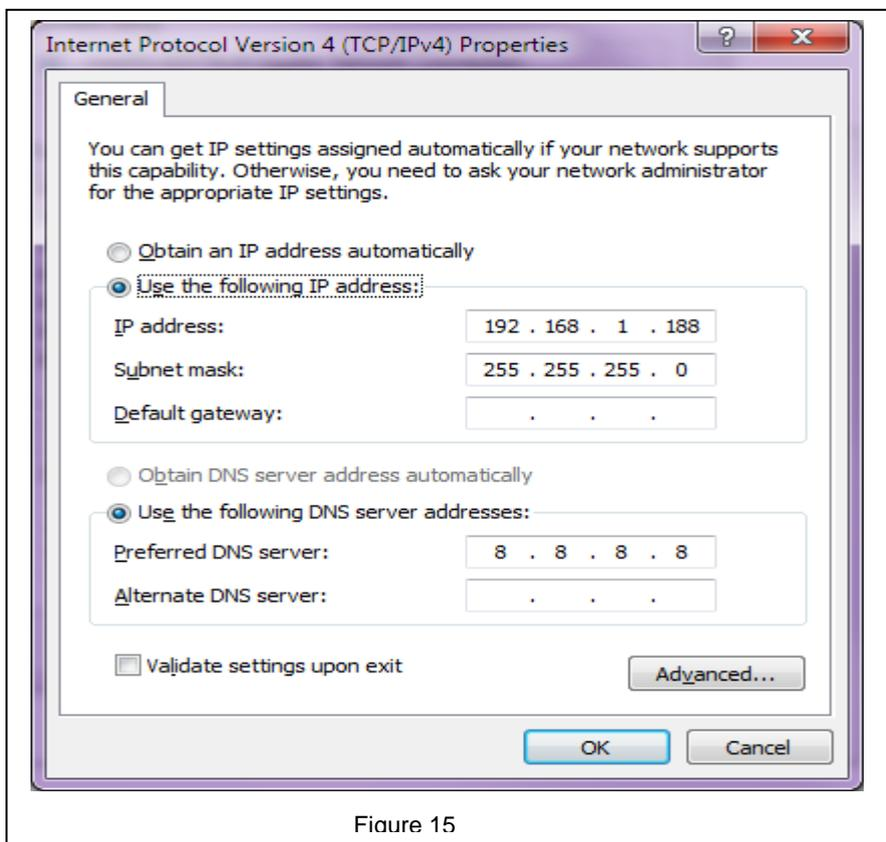

Figure 15
13.7 After entering Internet Protocol Window, select “Use The following IP Address” to specify your PC IP Address. Here for example it is 192.168.1.188 and subnet mask is 255.255.255.0. Then Click OK/close/close to close all the windows opened. See Figure 15.